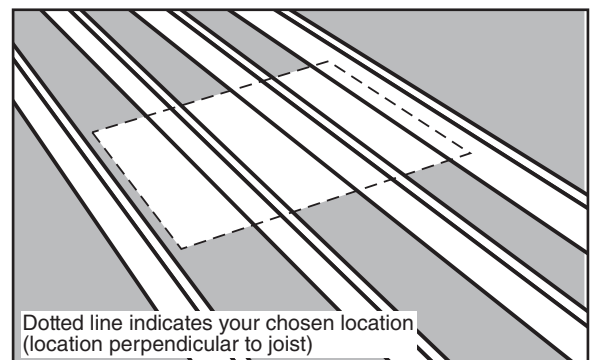

FIGURE 8
(B) If the chosen location is perpendicular to the joists, mark the rough opening width on top of the joists (See Figure 8).